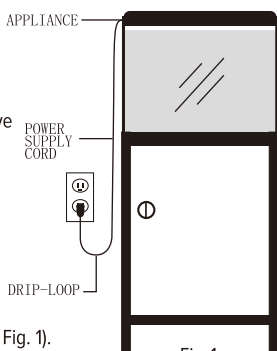

Fig. 1
8. Plug the adapter into the outlet. Create a drip-loop for both the filter and aquarium (see Fig. 1).